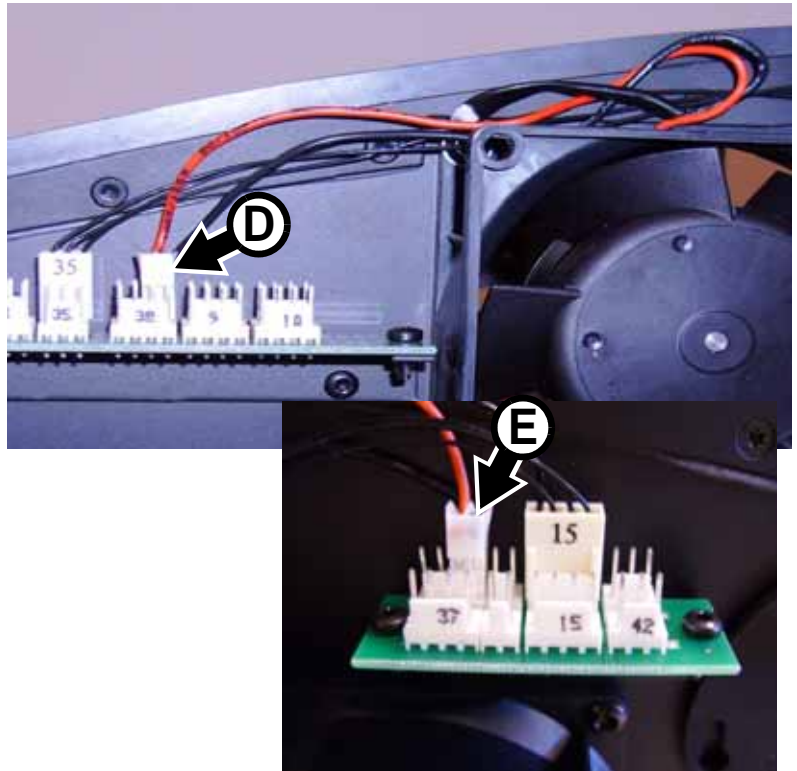

Figure 67
73. See Figure 67. Plug the effects fans into the connectors where the old effects fans were plugged in: